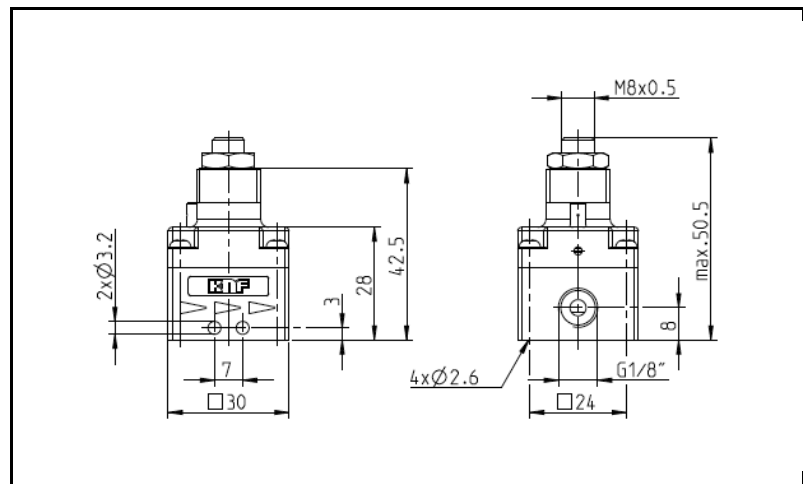

Fig. 1: Mounting dimensions FDV\_30
- Mounting dimensions (see Fig. 1 to 4)